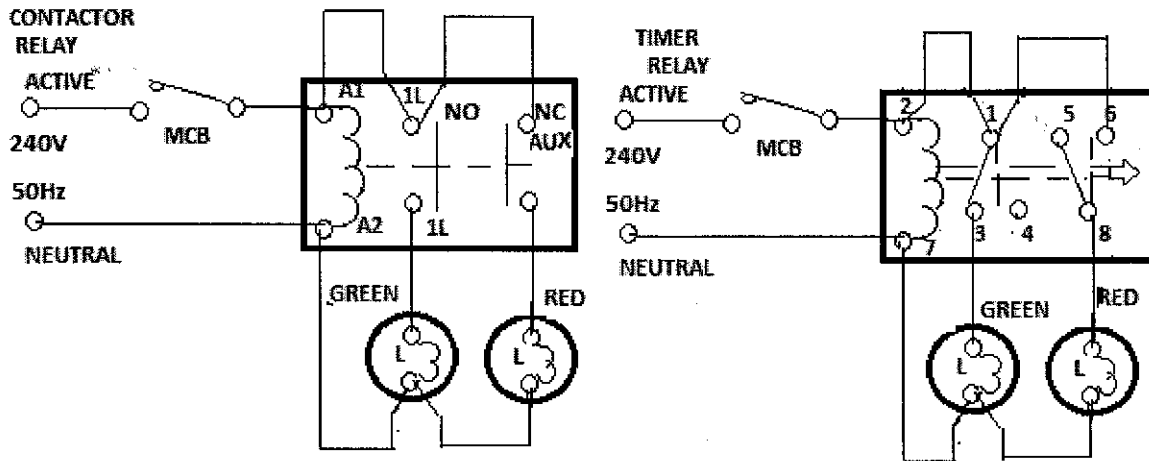

Figure 1: Electrical scheme for contactor and timer.
- b) Explain the operational difference between the two electrical scheme given figure 1.